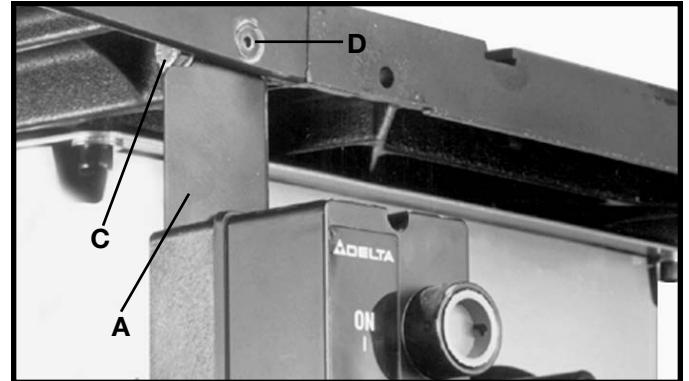

Fig. 13
3. Attach the side of switch bracket (A) Fig. 13, to the inside of extension table at the front of the saw using the 7/16-20x1-1/4" screw (C) and 7/16" flat washer. Tighten screws (C) and (D).